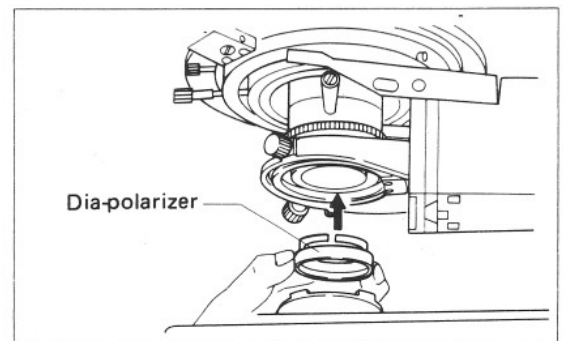

Fig. 12
- 3) Insert the dia-polarizer into the bottom of the condenser as shown in Fig. 12.